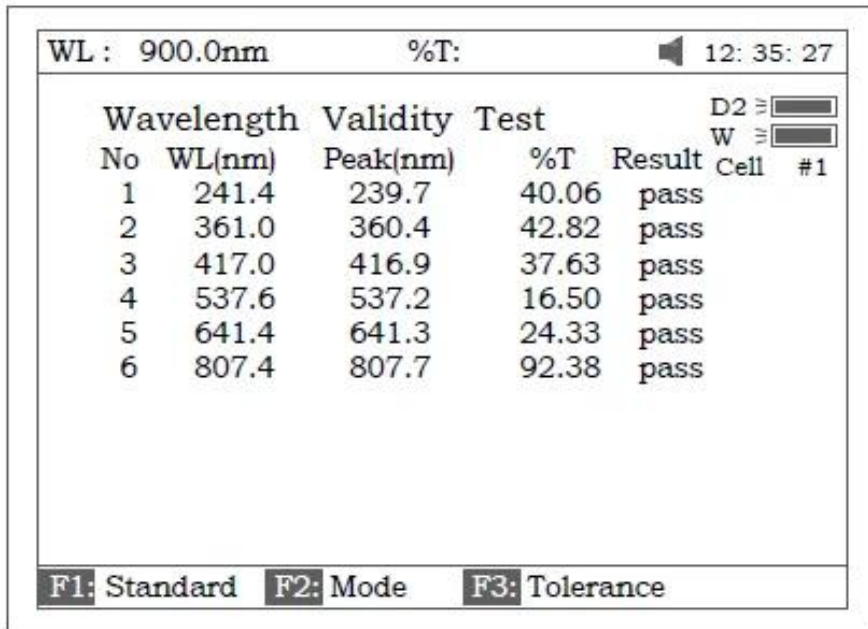

Figure 99
6. Put the sample (calibrated holmium liquid) into Main Light Path. Press **【START】** to check. The results will be displayed on the screen (Fig 99). If the discrepancy between the results and the calibrated values is not more than the tolerance, "pass" will be displayed after the test results. Otherwise, "fail" will be displayed.